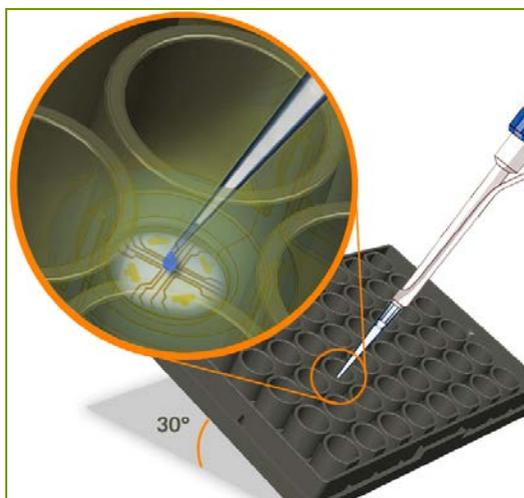

Figure 1: Example Droplet Placement
3. Tilt the 48-well MEA plate pre-coated with PEI solution at a 30 degree angle so that the bottom of all wells are visible (Figure 1). Pipette a 10 µl/well droplet of 80 µg/ml laminin pre-dot solution directly over the recording electrode area of each well. Incubate the 48-well MEA plate at 37°C for 30 minutes.
1. Thoroughly mix the cell suspension by gently inverting the tube 2 - 3 times. Tilt the 48-well MEA plate at a 30 degree angle so that the bottom of all wells are visible. Immediately dispense a 10 μ l/well droplet of the cell suspension directly into the 10 μ l/well droplet of laminin pre-dot solution, resulting in a final droplet size of 20 μ l/well (Figure 1).